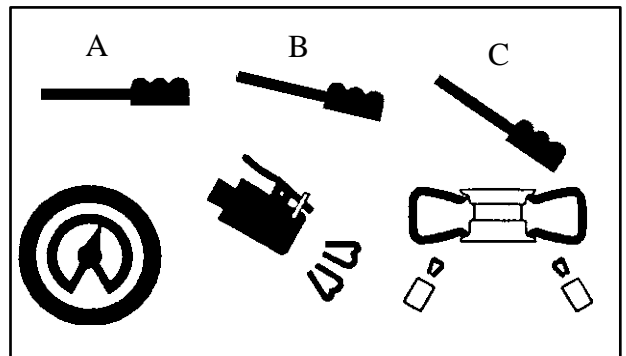

Fig 14
- Press the pedal down to intermediate position (B - fig. 14).
- if the bead of tyre is not well seated, due to a strong bead, lift tyre manually until the upper bead seals against the rim, then press pedal all the way down (C - fig. 14). A strong jet of air will be released through the nozzles in the slides and this will help the bead seal.
• release the tyre; set the pedal in the intermediate position (B - fig. 14) and continue to inflate the tyre with short jets of air and constantly checking the pressure between air jets until the required pressure has been reached.